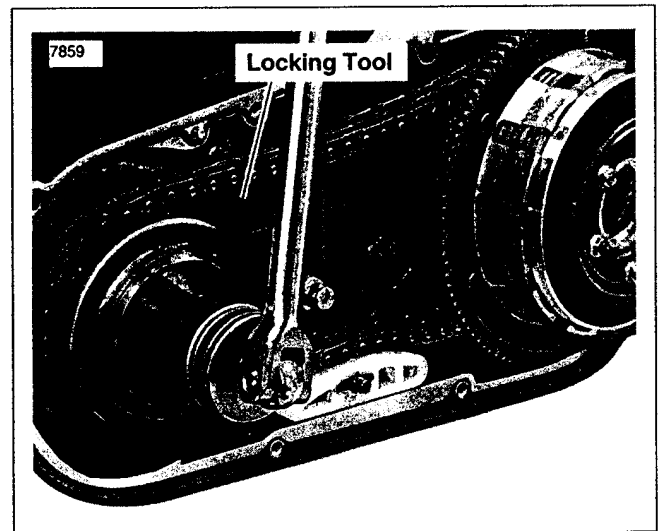

Figure 6-10. Removing Compensating Sprocket Nut
See Figure 6-10. When removing the compensating sprocket nut the **PRIMARY DRIVE LOCKING TOOL** (Part No. HD-41214) must be placed between upper strand of primary chain and compensating sprocket.
- See Figure 6-10. Using a breaker bar, remove the compensating sprocket nut.